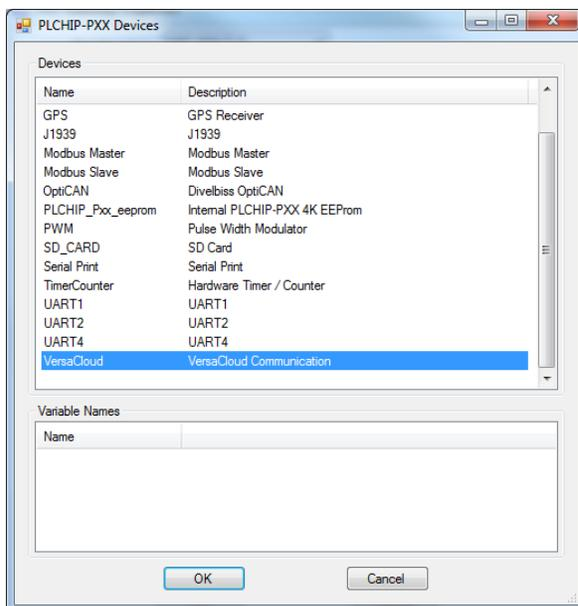

Figure 2-46 - PLCHIP-PXX Devices - VersaCloud
3. Click the **ADD DEVICE** button. The **PLCHIP-PXX Devices** window will open. Locate the **VersaCloud** in the Devices pane of this window. Click / select **VersaCloud** (highlight). Refer to Figure 2-46.